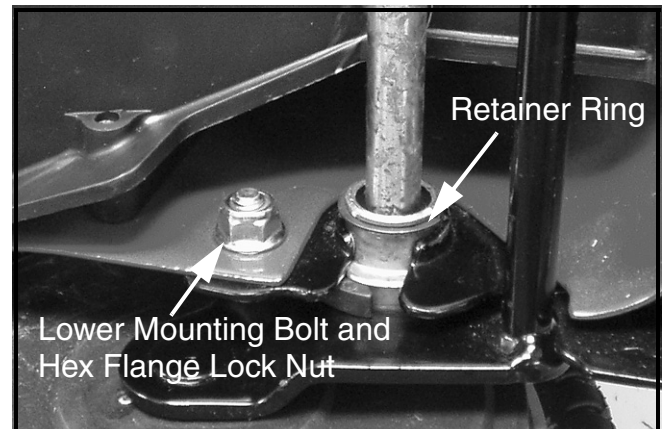

FIGURE 2
pry the retaining ring out of the groove of the support bearing. See Figure 2.
8. Using a 1/2" box/open end wrench, remove and discard the hex flange lock nut and carriage bolt from the handle bracket's lower mounting. See Figure 2.